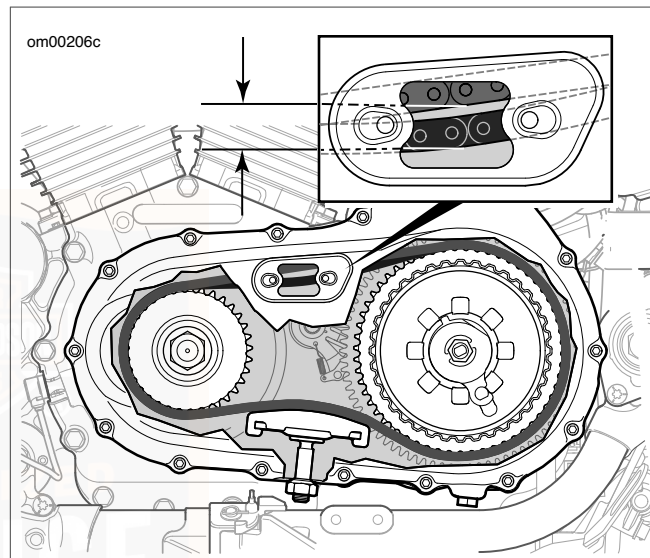

Figure 49. Primary Chain Free Play
3. See Figure 49. Check primary chain tension by measuring free play.